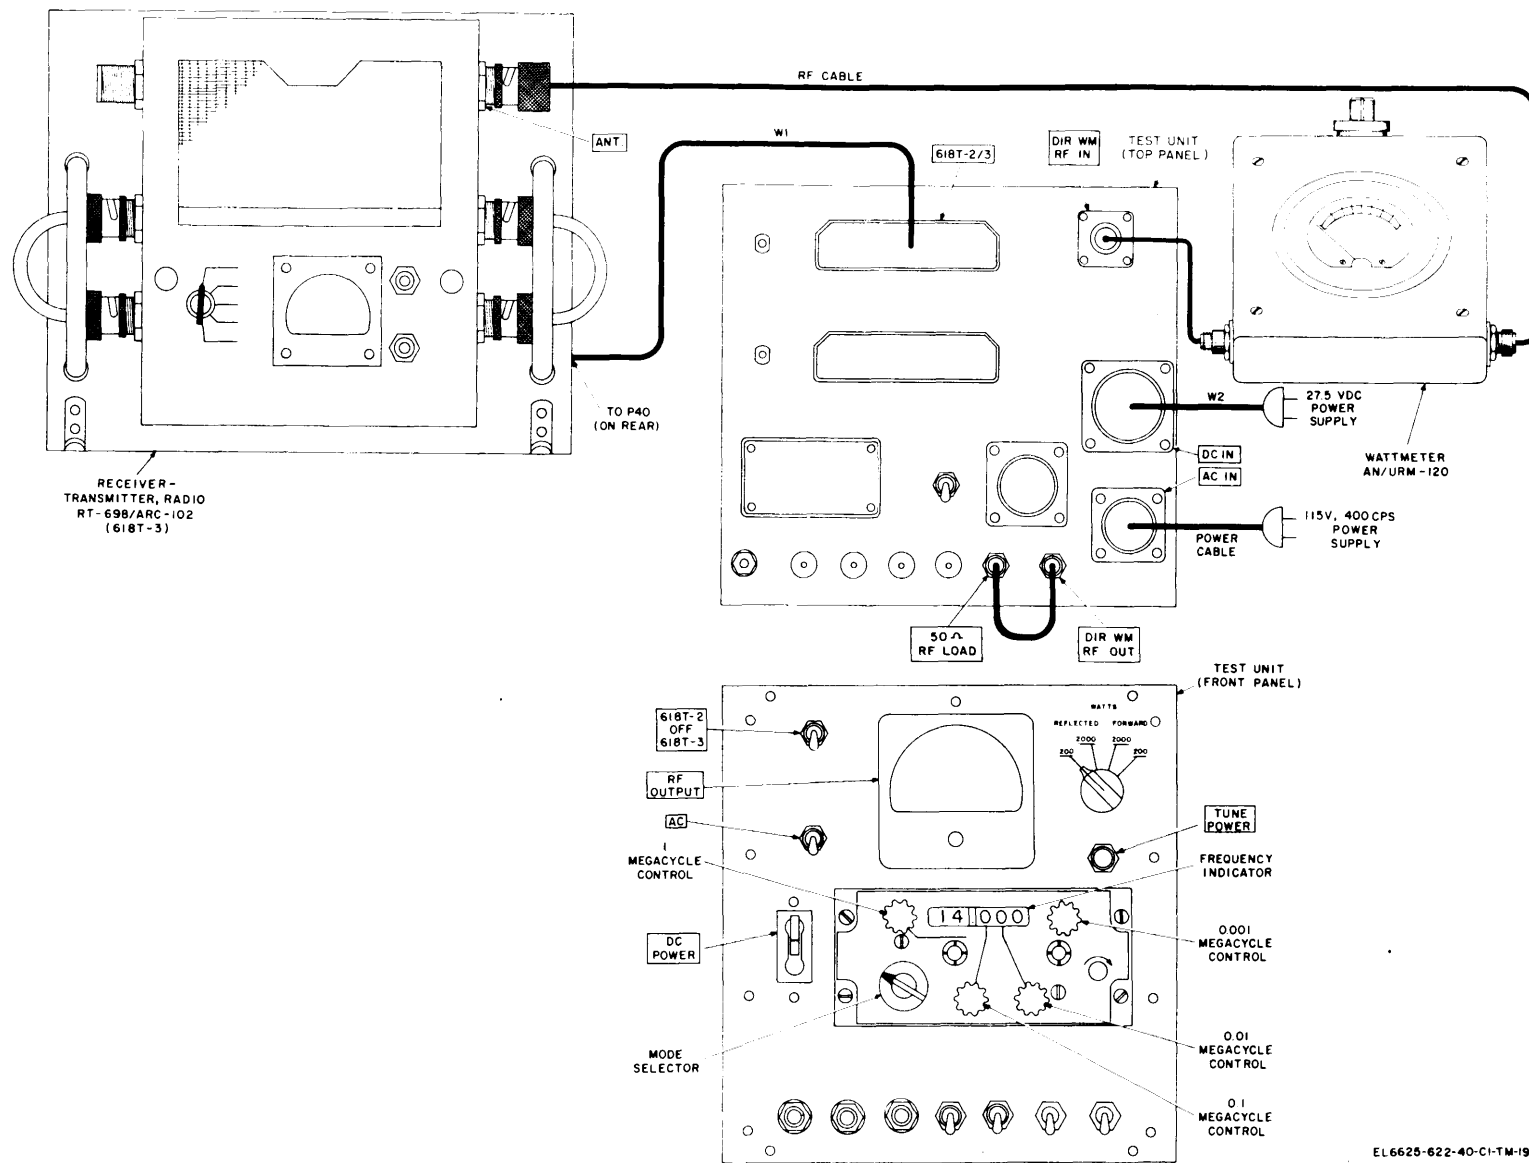

Figure 3-7. Test Harness, Radio Set AN/URM-157 directional wattmeter, calibration test connection.
(1) Connect the equipment as shown in figure 3-7 or 3-8 and apply power, allowing the receiver-transmitter to warm up.
(2) No conditions necessary.